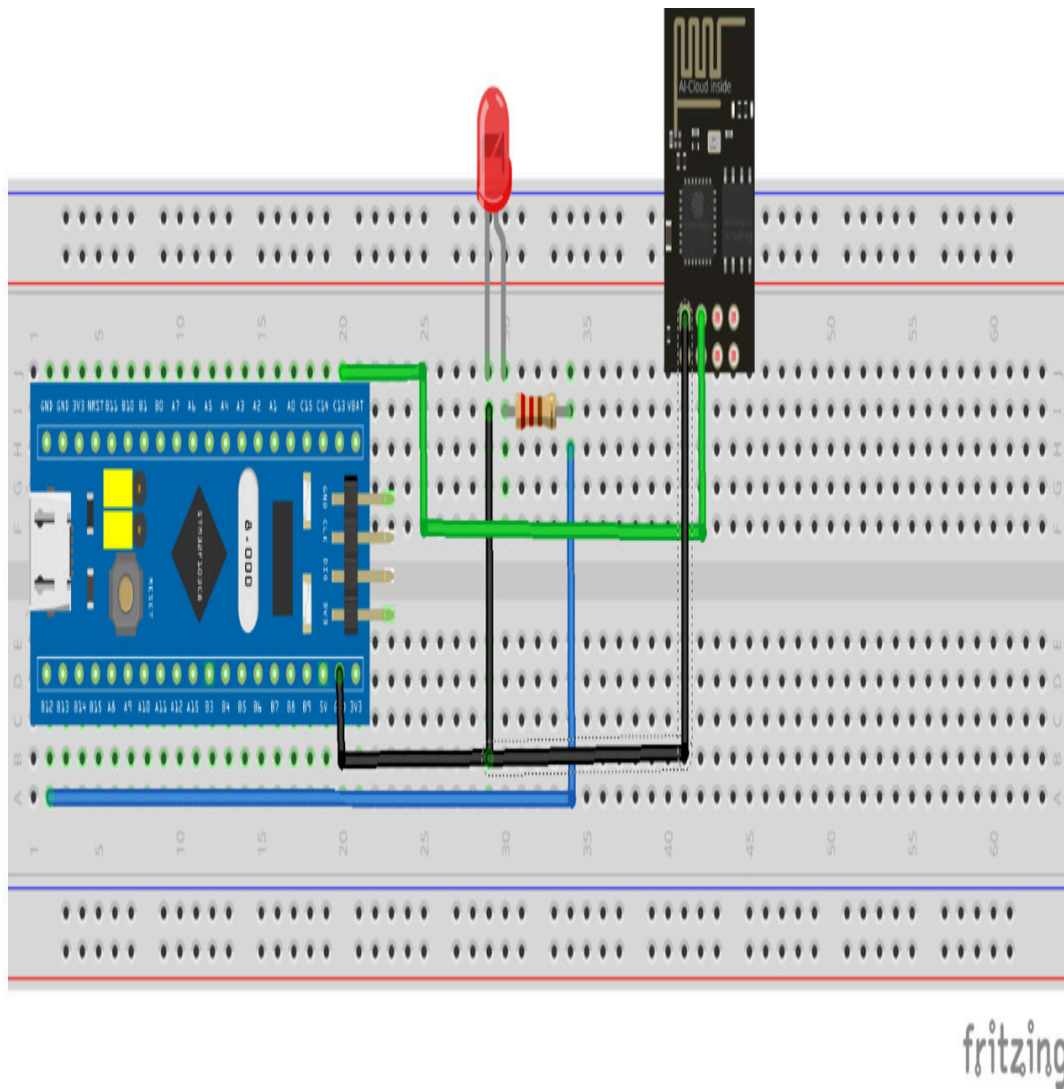

Figure 9.18 – Connecting the STM32 to the internet
*Figure 9.18* shows the connections required to interface the STM32 and the SP-01: